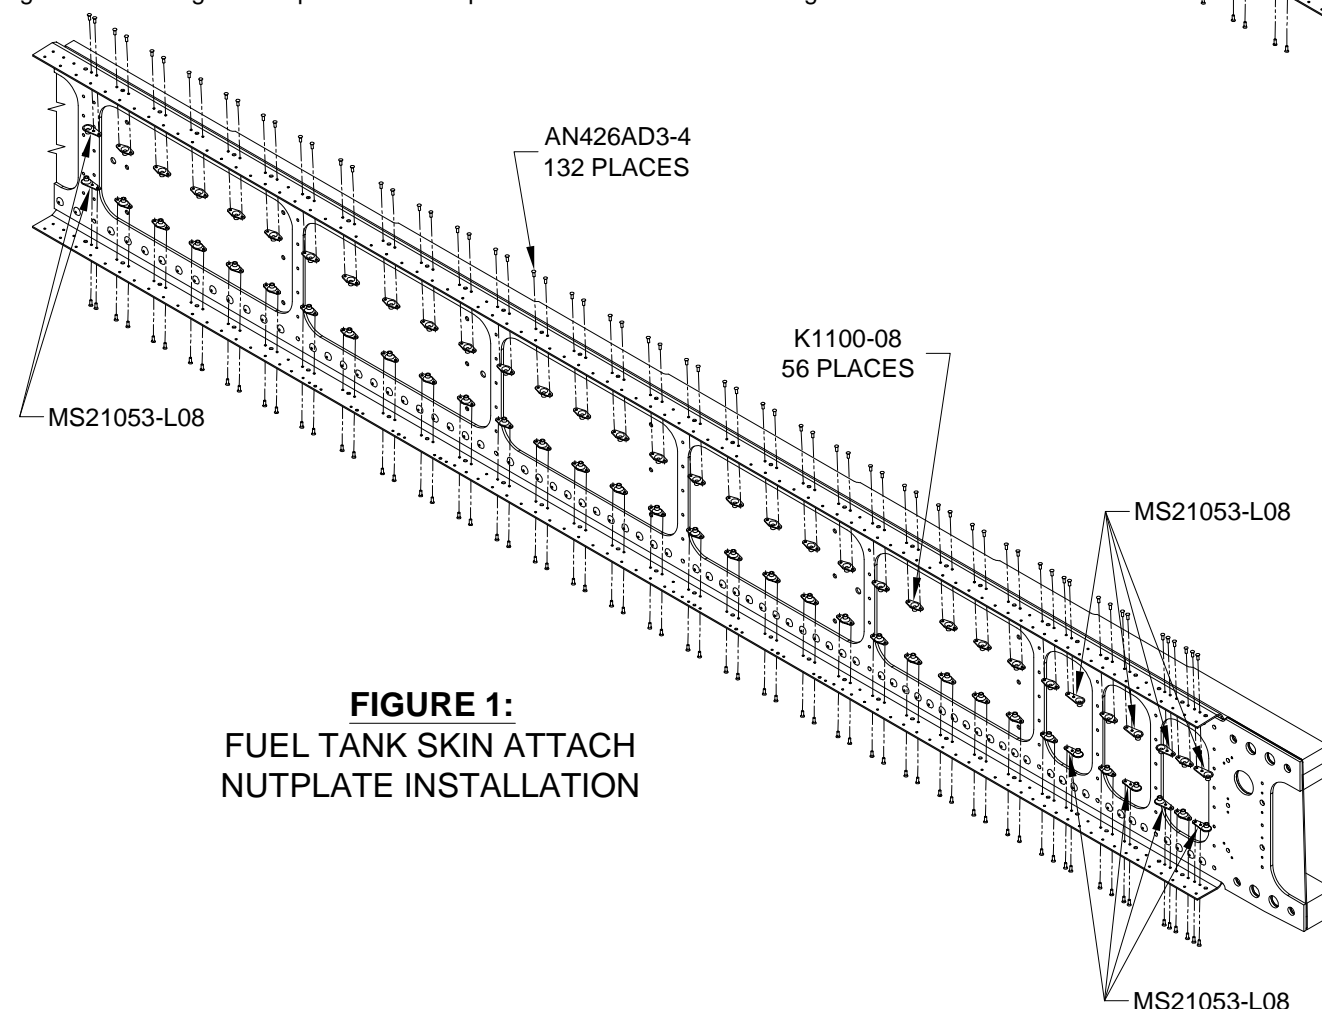

FIGURE 1:
Countersink just deep enough to fit the head of an AN426AD3 rivet. Read Section 5E for more information on countersinking and dimpling. The fuel tank skin attach nutplate locations are shown in Figure 1. The wing access plate attach nutplate locations are shown in Figure 3.
Step 4: Rivet the fuel tank skin attach nutplates to the W-SPAR ASSY-L Spar Assembly - Left as shown in Figure 1.